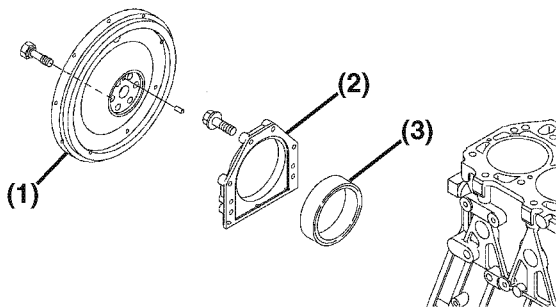

Figure 6-139
- Apply ThreeBond Liquid Gasket No. 1212, Yanmar Part No. 977770-01212 to the mounting flange of the seal housing (Figure 6-139, (2)).
- Reinstall the flywheel (Figure 6-139, (1)) and tighten the bolts to the specified torque. See *Special Torque Chart* on page 6-23 for specifications.